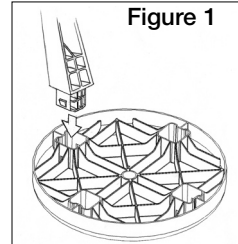

Figure 1
2. Insert legs into the recesses of the seat (see figure 1) by applying a firm downward pressure until the leg is fully engaged